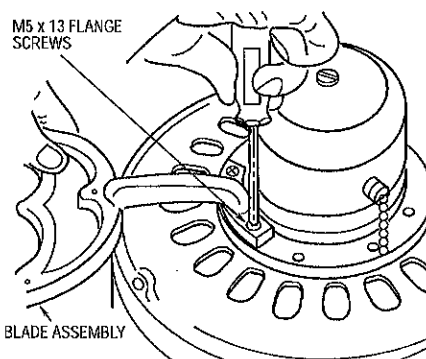

Figure 3
- ☐ 8. Attach blade assembly to motor hub using two M5 x 13 flange screw preassembled in flange. Make sure the screws are tightened securely (Figure 3). Repeat this procedure for other four blade assemblies.